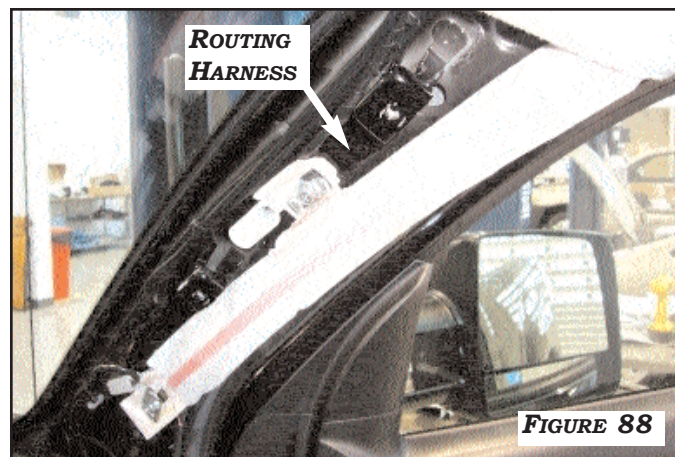

FIGURE 88
2. ROUTE HARNESSES ABOVE HEADLINER TO PASSENGER-SIDE A-PILLAR. ROUTE HARNESSES DOWN THE A-PILLAR USING FACTORY RETAINING CLIPS OR FOAM TAPE WHENEVER POSSIBLE. **IF THE VEHICLE HAS SIDE CURTAIN AIRBAGS, BE SURE TO SECURE THE HARNESSES SO THAT IT DOES NOT INTERFERE WITH AIRBAG DEPLOYMENT.** ROUTE THE HARNESSES FROM THE A-PILLAR TO THE PASSENGER SIDE KICK-PANEL. **FIGURE 88**